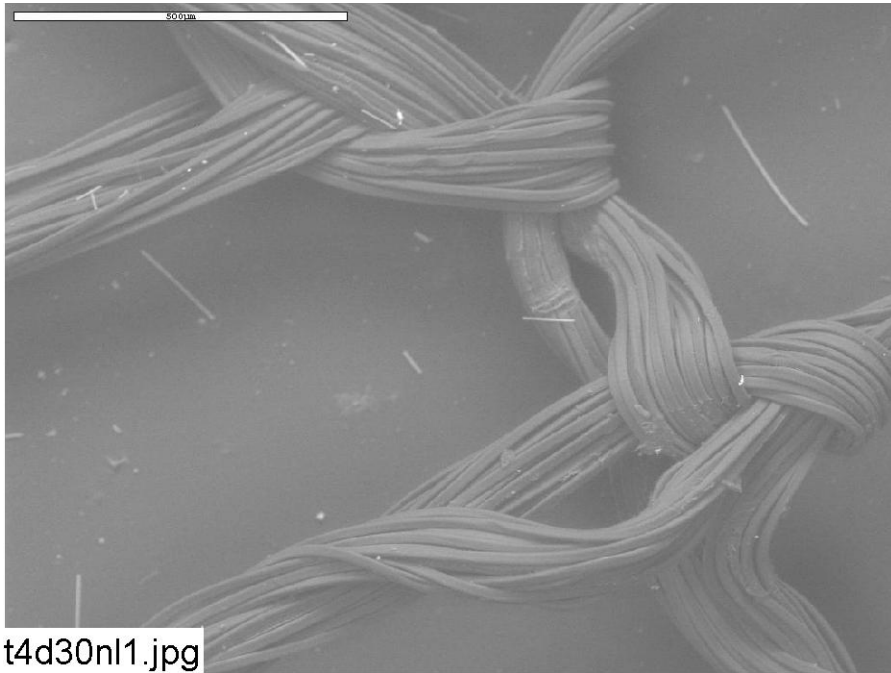

Figure C2-1. Environmental SEM image magnified 100 times for a Test #4, Day-30 nylon mesh submerged in low-flow area (inserted on Day 4). (t4d30nl1.jpg)
- Figure C2-1. Environmental SEM image magnified 100 times for a Test #4, Day-30 nylon mesh submerged in low-flow area (inserted on Day 4). (t4d30nl1.jpg) C2-4